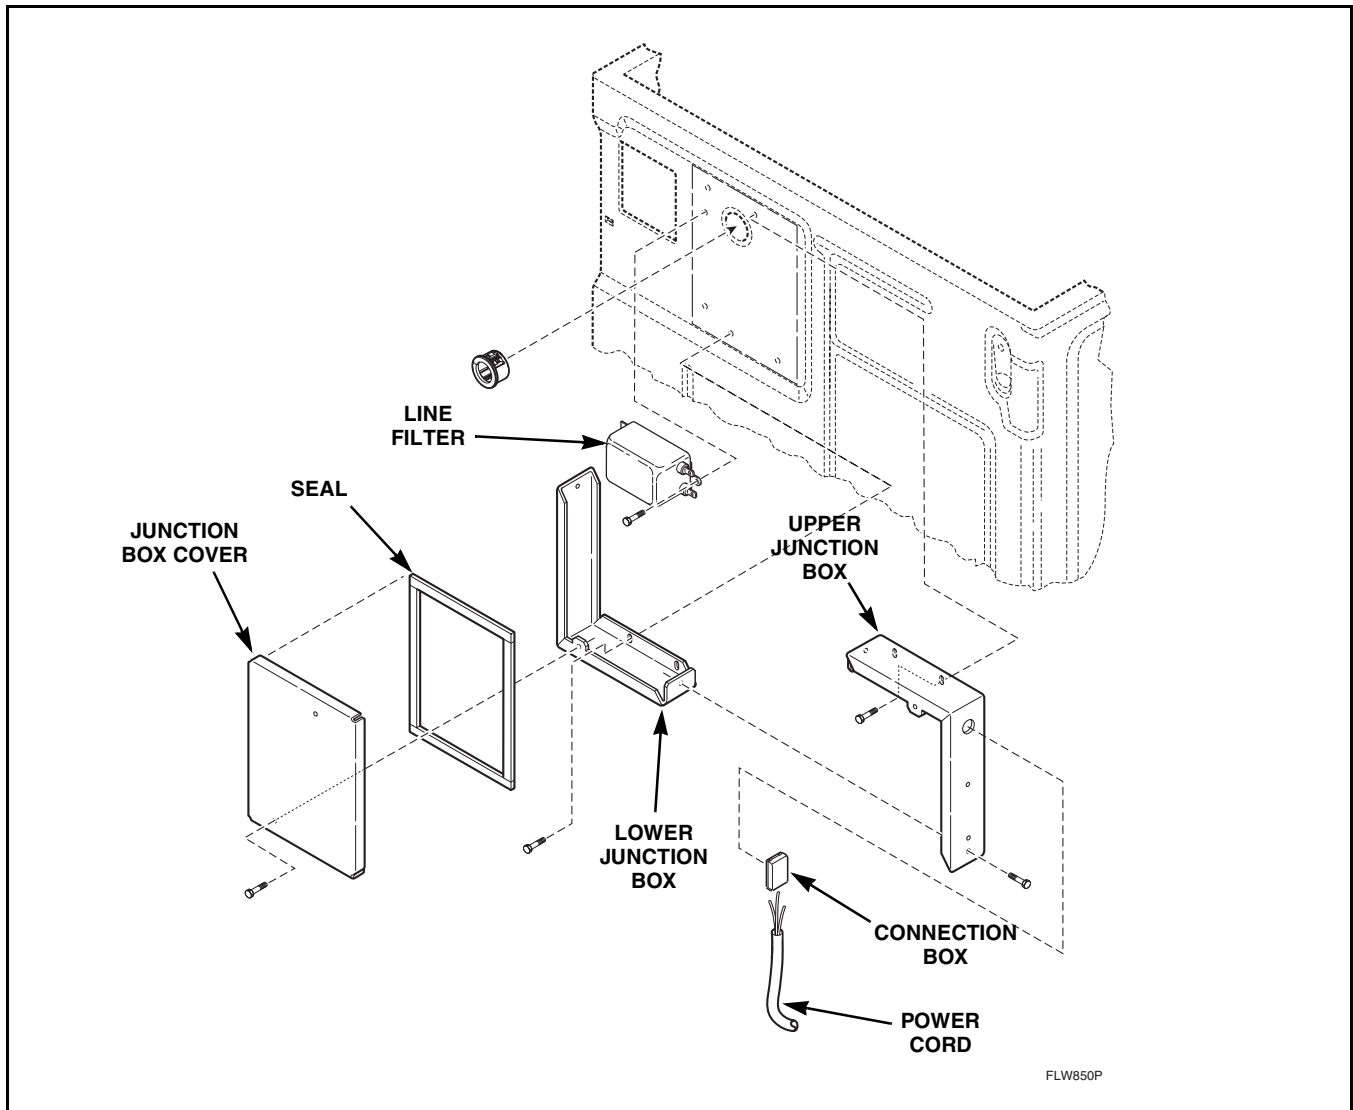

Figure 16
- Go to rear of washer and remove two screws from junction box cover. Refer to *Figure 16*.
- To remove junction box, remove screws holding upper and lower portions of box to rear panel. Refer to *Figure 16*.